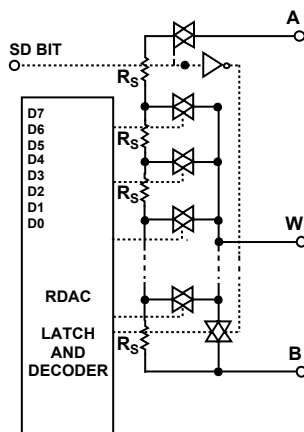

Figure 28. Equivalent RDAC Circuit (A terminal for AD5172 only)
The nominal resistance (R_{AB}) of the RDAC has 256 contact points accessed by the wiper terminal, plus the B terminal contact if R_{WB} is considered. The 8-bit data in the RDAC latch is decoded to select one of the 256 settings. Assuming that a 10 k Ω part is used, the wiper's first connection starts at the B terminal for data 0x00. Such connection yields a minimum of 60 Ω resistance between terminals W and B because of the 60 Ω wiper contact resistance. The second connection is the first tap point, which corresponds to 219 Ω ($R_{WB} = (1) \times R_{AB}/256 + R_w$) for data 0x01, and so on. Each LSB data value increase moves the wiper up the resistor ladder until the last tap point is reached at 10060 Ω ($(256) \times R_{AB}/256 + R_w$). Figure 28 shows a simplified diagram of the equivalent RDAC circuit. The general equation determining R_{WB} is